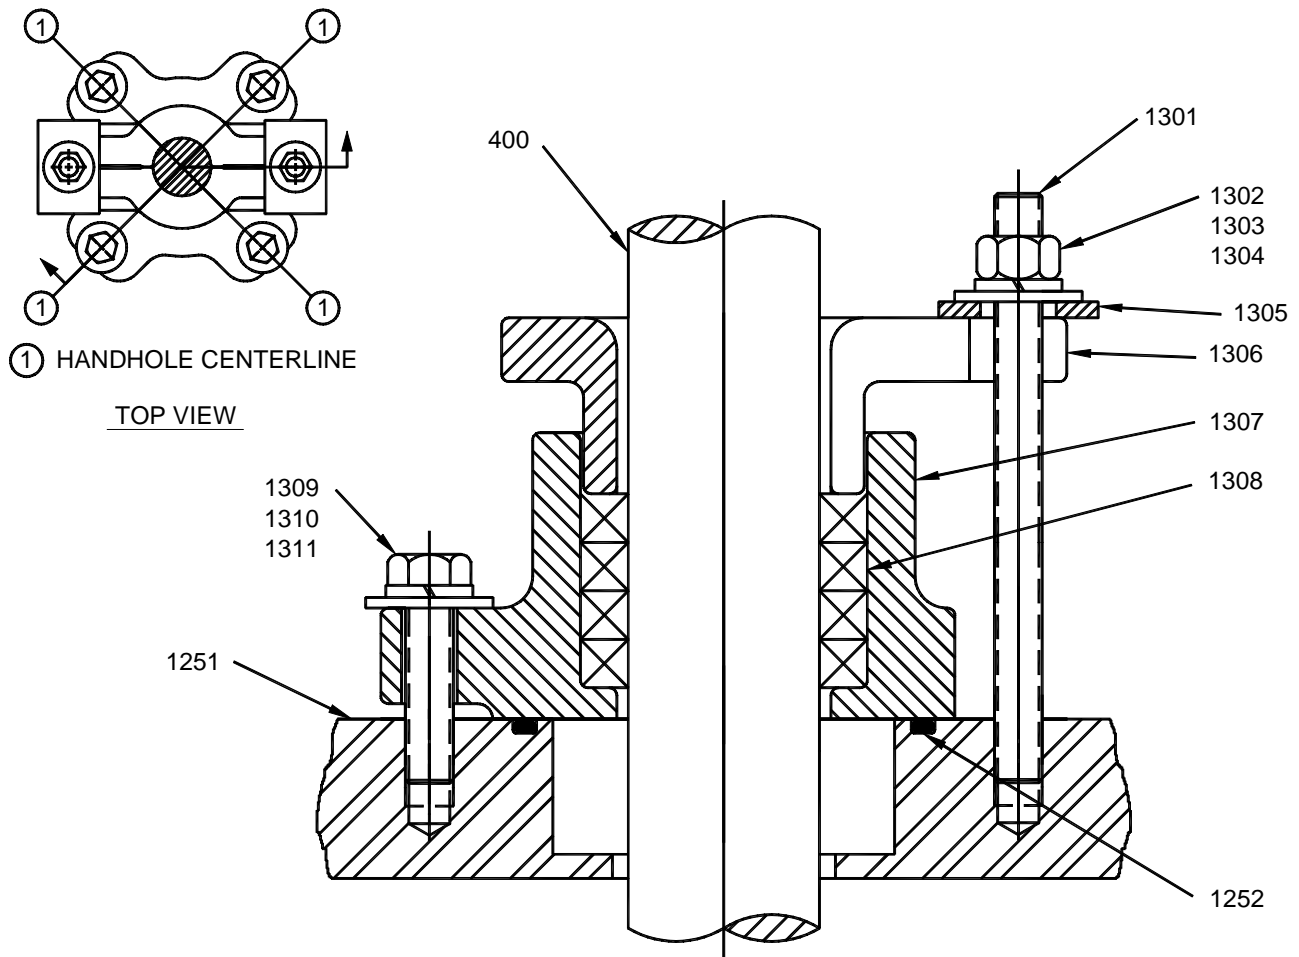

Figure 5: Stuffing Box Installation
8. **For DTA units:** Install the split packing gland [1306] over the threaded studs [1301] with gland clamps [1305], flatwashers, lockwashers, and hex adjusting nuts [1302, 1303, 1304]. Refer to *Figure 5, page 10*. The split packing gland must be square with the packing housing. Tighten packing housing bolts [1309]. Torque to the value shown in *Table 7, page 19*.